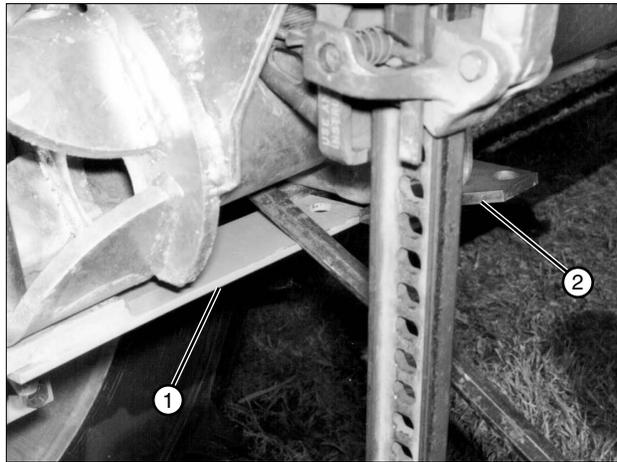

Figure 34-2 1. Steering Arm 2. Latch Plate
6. Using a pry bar, push down on the gearbox mount steering arm to release it from the latch plate while pushing the tire toward the tow position until steering arm is out of latch plate. See Figure 34-2.